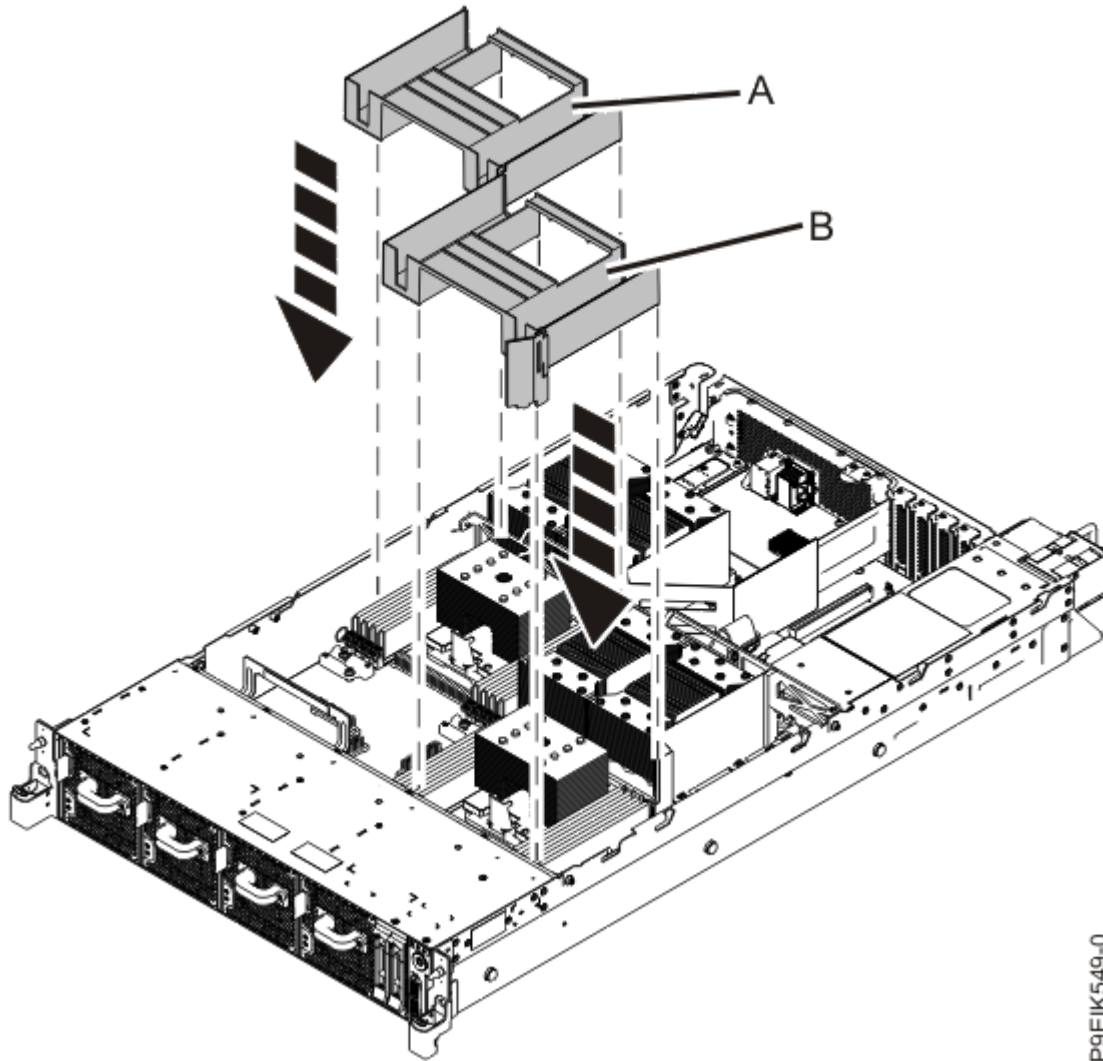

Figure 66. Replacing the system processor air baffles
29. Replace the air baffles (A) and (B) as shown in Figure 66 on page 81.